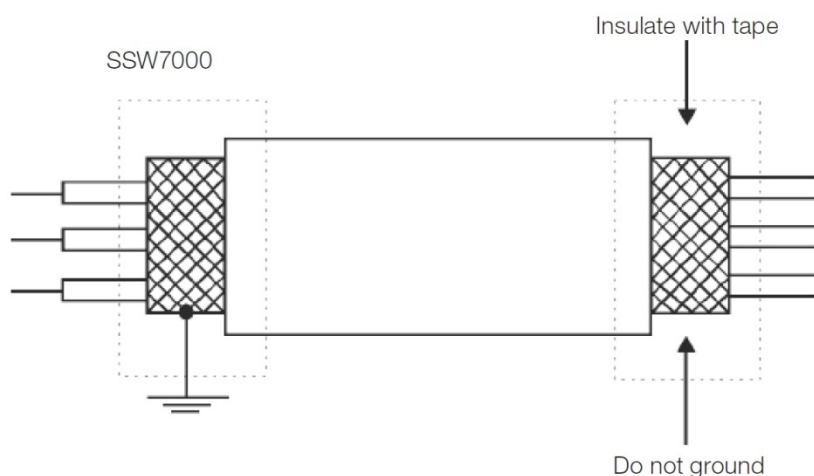
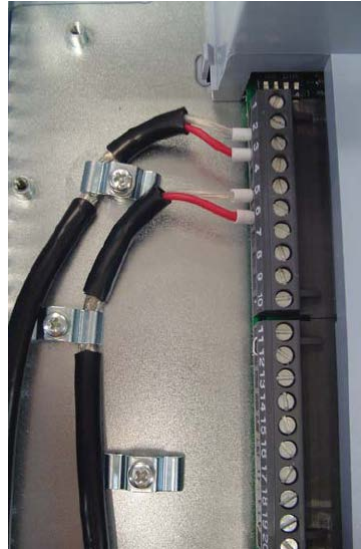

Figure 5.38: Shielding conection
Figure 5.39: Example of cable shield connection of connector XC1
- The figure 5.38 shows the cable shield connection. Refer to the shield connection example showed in the figure 5.39.